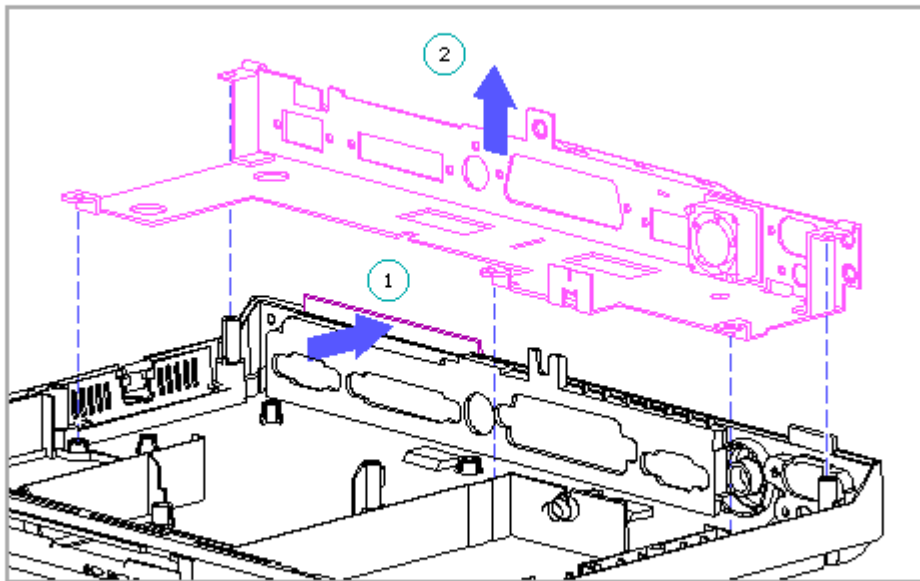

Figure 4-49. Removing the I/O Bracket
19. Slightly flex the left side of the computer base enclosure toward the back of the unit [1] and remove the I/O bracket [2] (Figure 4-49).